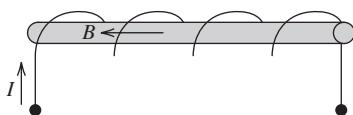

FIGURE P12.8 The magnetic field of a coil.
- 12.8** (H) A magnetic field can be obtained by winding wire onto a cylindrical coil as shown in Figure P12.8.